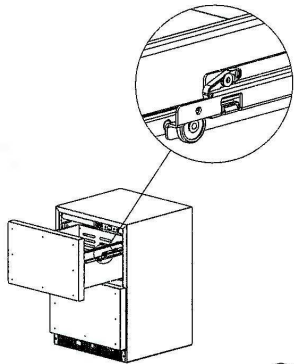
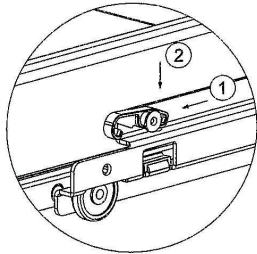
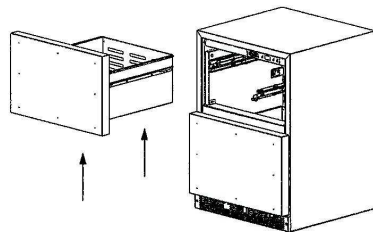

Figure 5
Figure 6
Figure 7
1. Remove drawer from the unit. Begin by pulling out the drawer. Locate the drawer lock which can be found on the outside of the cabinet slide (see Figure 5). Push the back of the drawer lock forward and then down, releasing the drawer from the cabinet slide (see Figure 6). Repeat this on the opposite side of the drawer. Lift the drawer up from the slides at a 90 degree angle to fully extricate the drawer from the cabinet (See Figure 7).